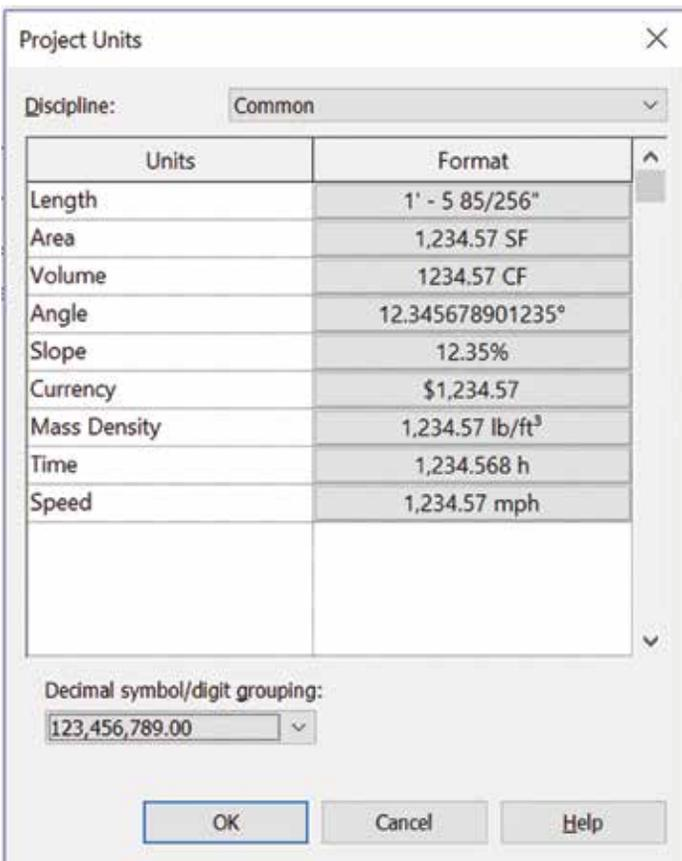
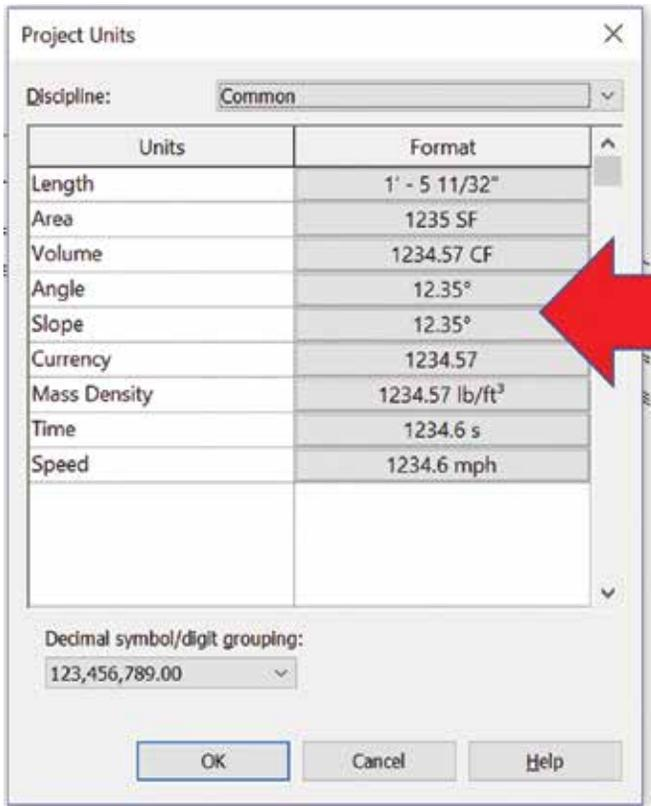

Figure 1: Image illustrating proper overall units
Figure 2: Image illustrating possibly the most unprofessional and unintelligent setup of units possible
large degree. If your units are set up like Figure 1, then you are dismissed lol... everyone else, be very scared, but read on.
If your Revit project template’s units (today we are talking Revit, but I do not care about the software: set Units as granular as possible) are NOT set as shown in Figure 1, and they are more like Figure 2, set your units up as I will explain. IMMEDIATELY after reading this. No joke!
1. Do not use the setup shown in Figure 2.